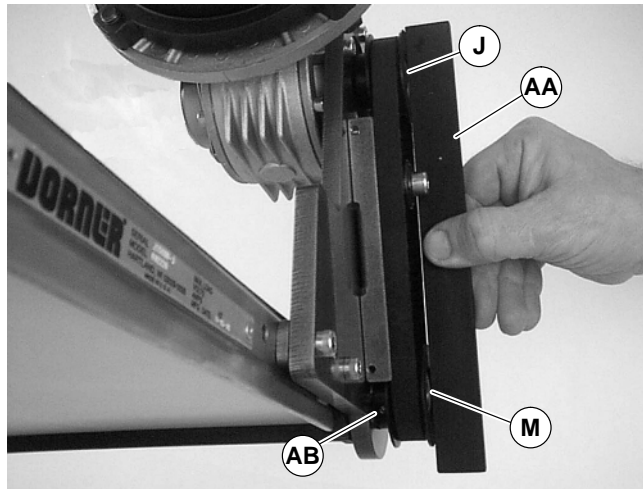

Figure 11
8. Wrap timing belt (P) around driven pulley (M) and drive pulley (J). Install driven pulley (M) onto conveyor shaft.
9. Using a straight edge (AA of Figure 11), align driven pulley (M) with drive pulley (J). Tighten driven pulley set screws (AB).